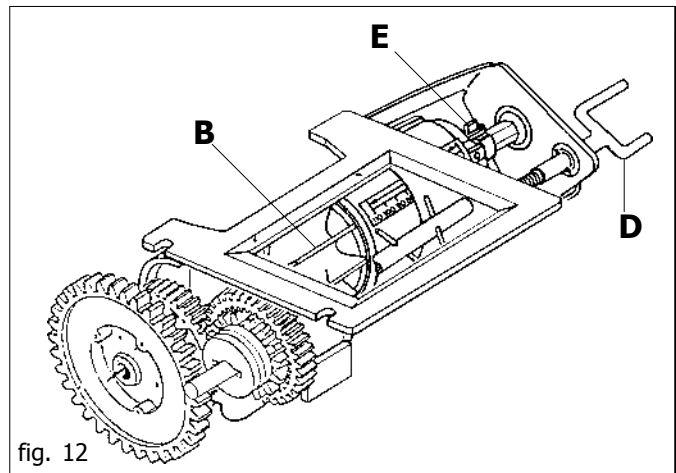
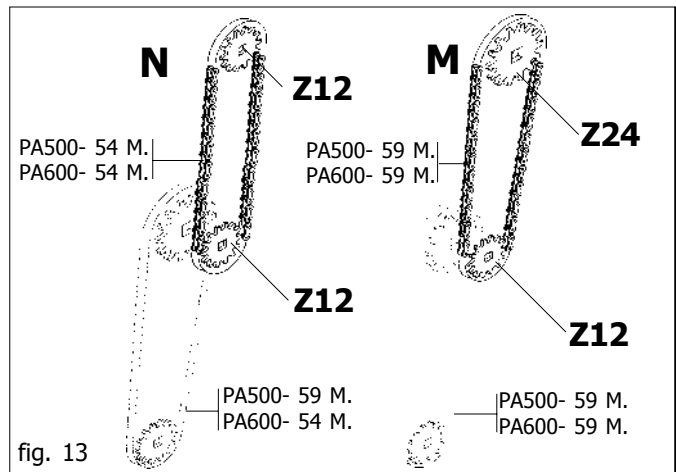

fig. 12
fig. 13
The doser (fig.12) the most important part for seeder operation, is located underneath the seed hopper. Motive power is transmitted to it by the drive wheel through gears (with ratios proportional to the width of the work to be carried out) and chains. The transmission can be fitted with one of two gear ratios (Fig. 13), according to the seed distribution requirements.
**Do not close the gate when there are seeds inside the doser: this would result in the dosing parts being broken.** The locking spring (E fig. 12) enables the opening range of the gate to be modified which, in turn, modifies the capacity of the dosing roller at the same time.
The doser (fig.12) the most important part for seeder operation, is located underneath the fertilizer hopper. Motive power is transmitted to it by the drive wheel through gears (with ratios proportional to the width of the work to be carried out) and chains. The screw rod (D) enables the degree to which the gate opens to be adjusted depending on the value of the graduated scale, calculated using the table and the distribution test (chapter 3.3.2). The maximum quantity that can be delivered is 420kg/ha. **Do not use the seed-metering device to distribute fertiliser.**